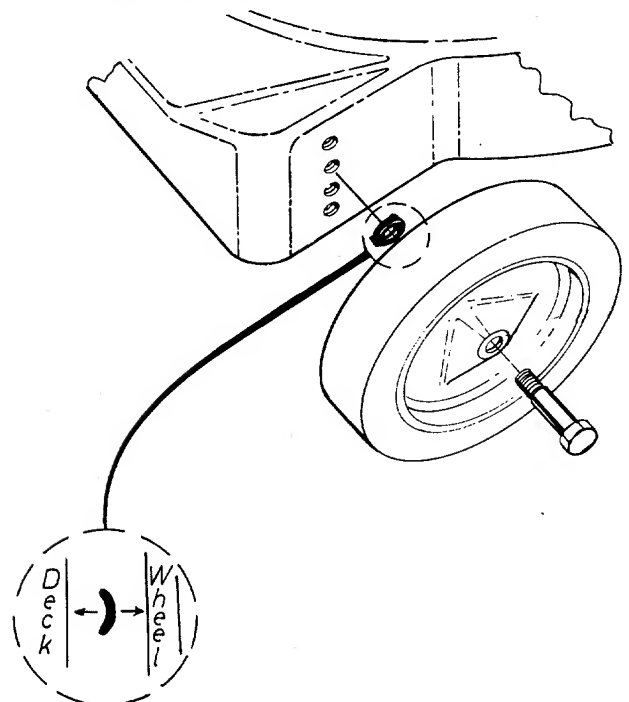

FIGURE 2
8. Place crown side of belleville washer (C) towards the wheel (away from deck). See Figure 2.